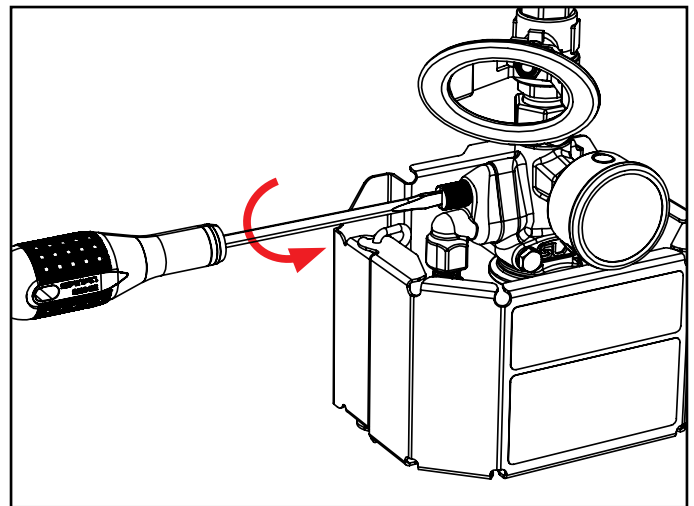

Fig. 10.2: Loosening thumb screw on elbow (chemical inlet)
3. Loosen the thumb screw on the elbow by hand or using a flathead screwdriver. [Fig 10.2]